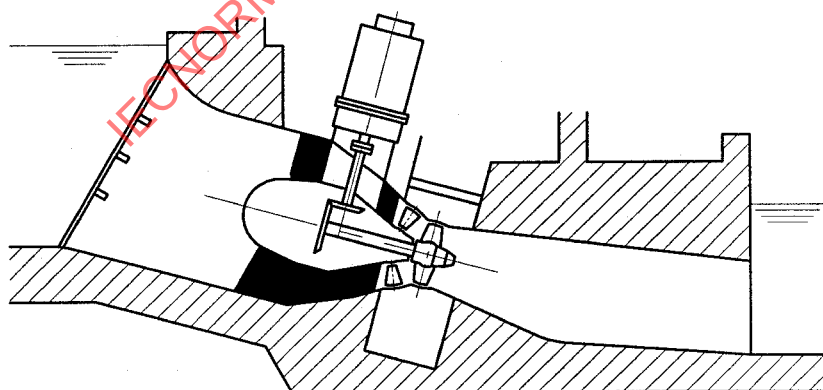

**Figure 3a - Turbine with bevel gear**
**NOTE -** The term "Bulb unit" includes turbines with bevel gear and shaft which drive the generator externally mounted outside the water passage, see figure 3a.